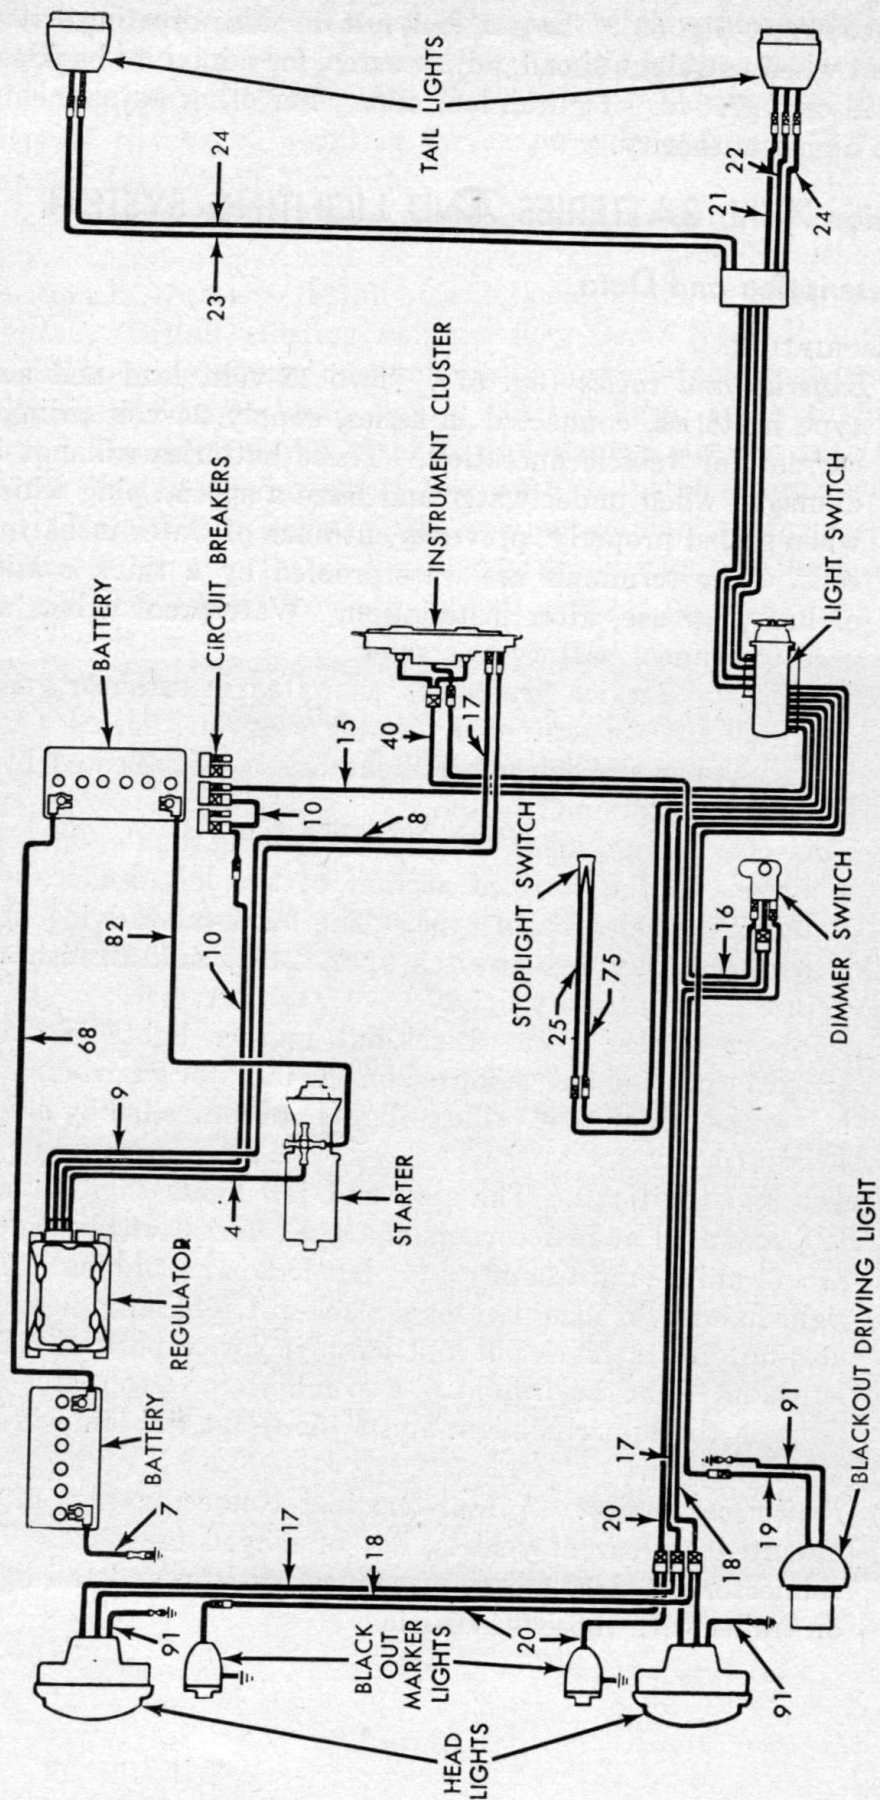

Figure 57. Light circuits.
- (1) *Batteries and cables* (fig. 57). Two 12-volt, lead and acid type batteries, connected in series, supply 24-volt primary current for vehicle operation. These batteries will not be damaged when under water and have a special plug which, when sealed properly, prevents entrance of water in battery cells. The terminals are waterproofed by a thick coating of heavy grease, after installation. Waterproof cables are used to connect battery to starter.